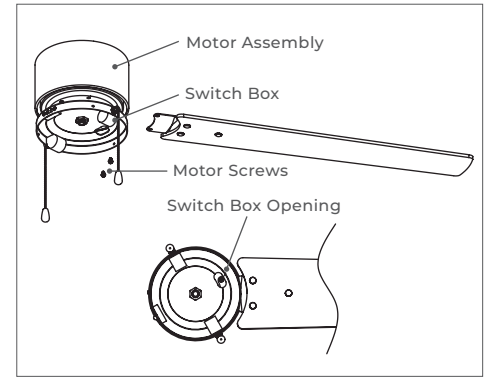

FIGURE 7
B) Rotate the motor so a screw hole can be seen through the opening in the switch box. Place the blade arm between the motor and switch box. Align the holes in blade arm and motor. Secure with 2 motor screws for each blade arm. Rotate the motor and repeat for the remaining blade arms. (Figure 7)